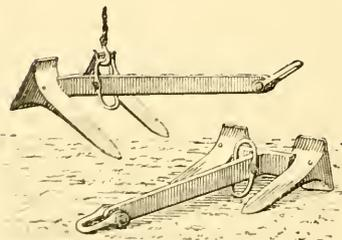

FIG. 226.
*Anchor (Smith's Stockless).*—This curious anchor is recommended by the patentees for the following reasons: It takes immediate hold; cannot foul; requires no stock; can be 20 per cent. lighter than other anchors; always cants properly; great strength; easily worked; lies flat on deck; stows in small space; easily tripped. The anchor is shown in the cut, Fig. 226.